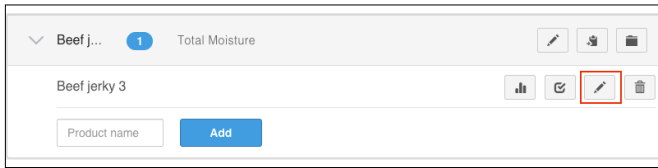

Figure 9 Select product
3. Select the product group that contains the product to be added as a model (Figure 9).
5. Click the edit icon on the product row (Figure 9).